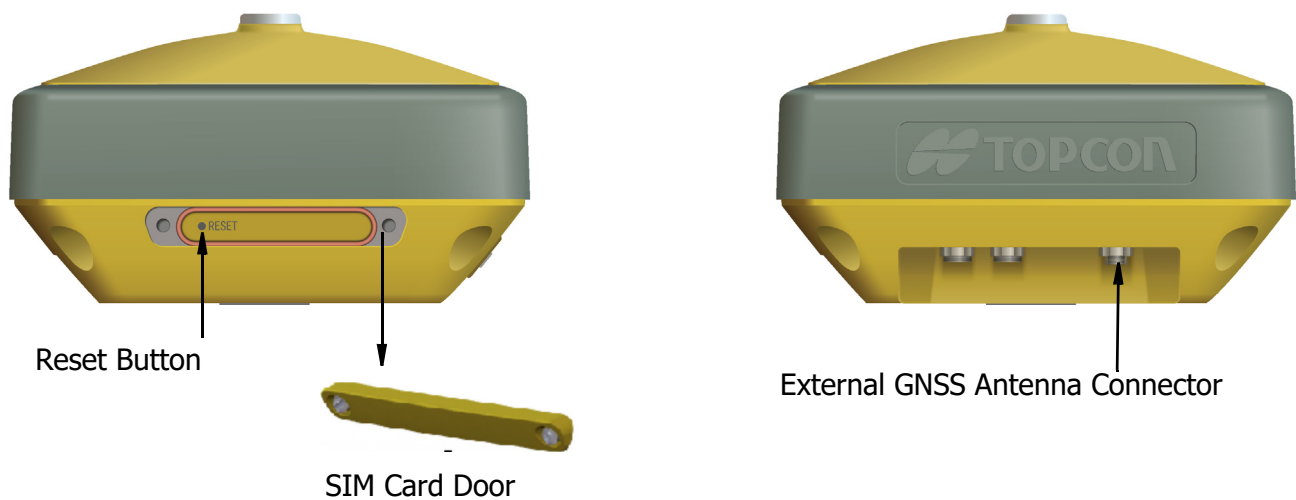

Figure 2-1: HiPer VR without UHF, FH915 Modems or a Cellular Module
1. A HiPer VR GNSS receiver **without** (UHF/FH915) modems or a Cellular Module (P/N 1016578-17). The lower part of the receiver contains the **External GNSS Antenna Connector**. The **Reset Button** is located under the **SIM Card Door** in the lower part of the receiver (Figure 2-1).